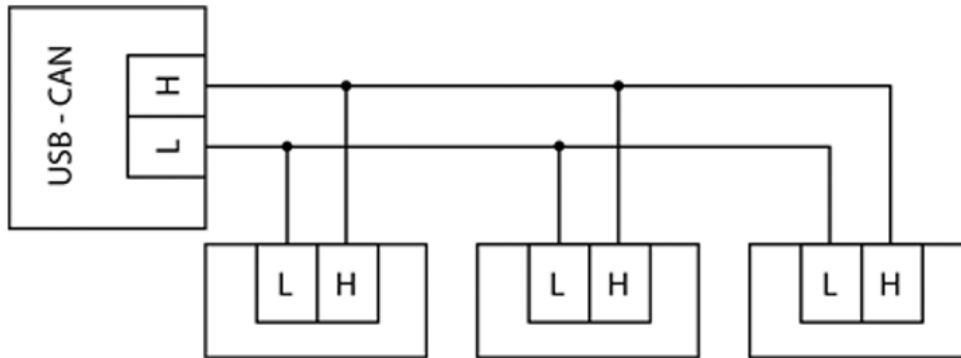
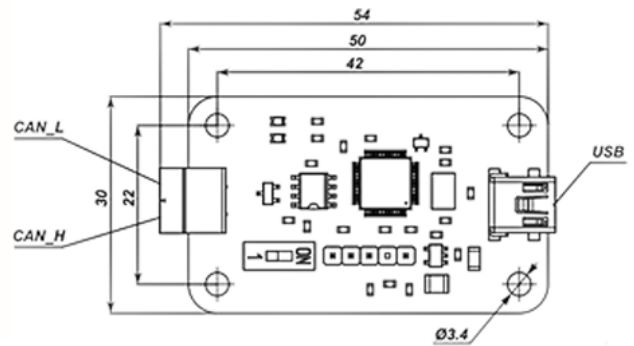

Figure 5: CAN interface connection scheme
Figure 6: USB-CAN hub
2. Connect up to 200 drivers into the CAN network (fig. 5) by using the CAN hub (fig. 6).